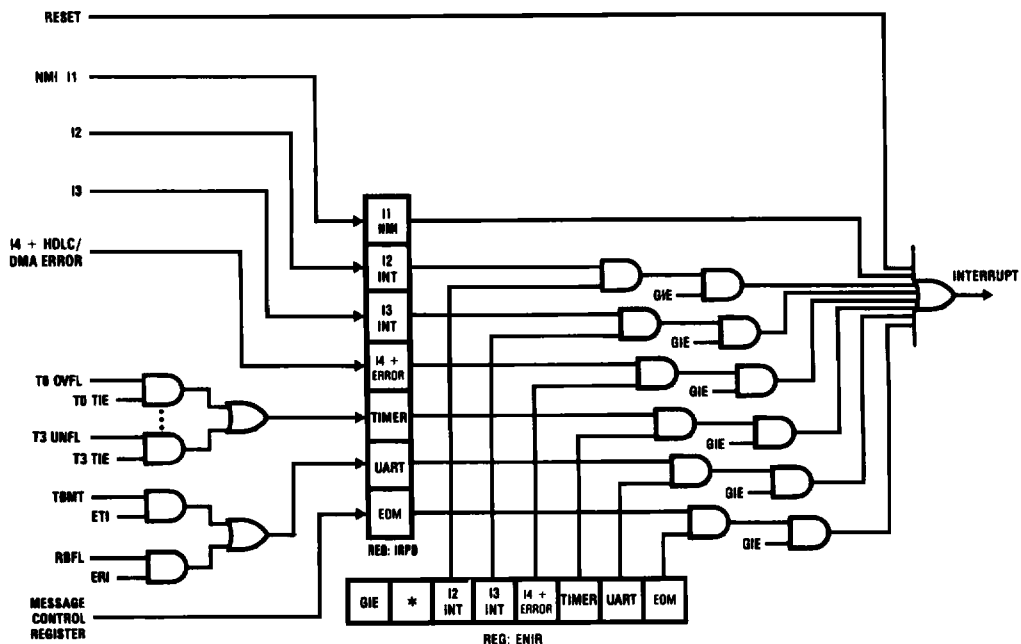

FIGURE 6. Interrupt Enable Logic
The Interrupt, once acknowledged, pushes the program counter (PC) onto the stack thus incrementing the stack pointer (SP) twice. The Global Interrupt Enable (GIE) bit is reset, thus disabling further interrupts. The program counter is loaded with the contents of the memory at the vector address and the processor resumes operation at this point. At the end of the interrupt service routine, the user does a RETI instruction to pop the stack, set the GIE bit and return to the main program. The GIE bit can be set in the interrupt service routine to nest interrupts if desired. Figure 6 shows the Interrupt Enable Logic.